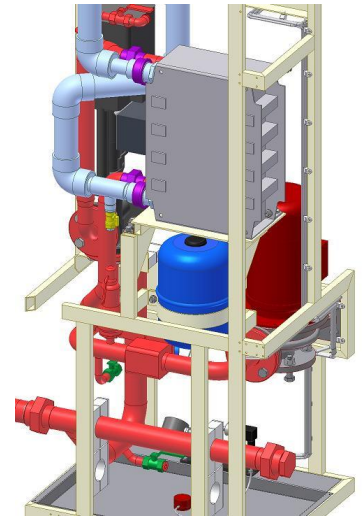

Figure 4.2-2
1. Drain both the primary circuit and the secondary circuit. The secondary circuit is drained through the V190 valve (marked yellow in Figure 4.2-2). The primary circuit is drained through the valves V210 and V212 (marked green in Figure 4.2-2).
2. Disconnect the primary and secondary circuit connections (marked violet in Figure 4.2-2) from the unit. AISI pipe connections can be opened with a box wrench. PVC-C pipe connections can be opened by hand, or if needed use an oil filter remover (used to remove the oil filter from cars). Be careful not to damage the connections.